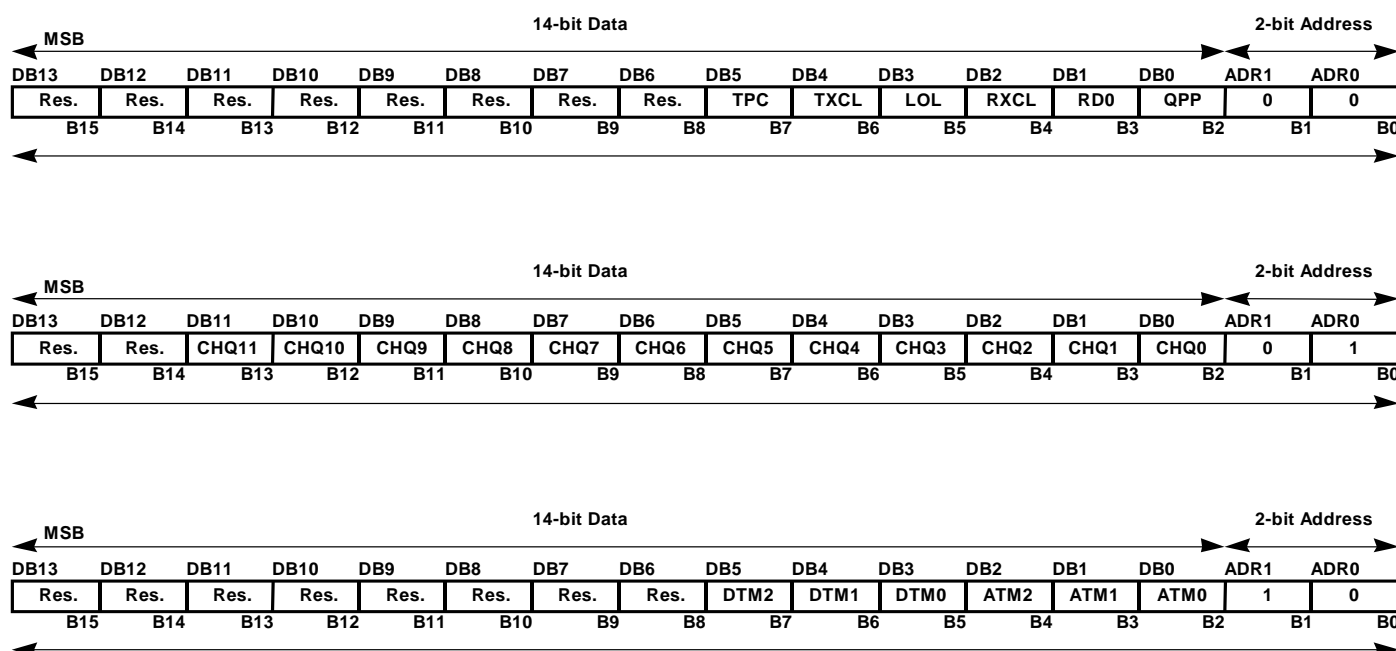

Figure 5. Register Organization
Figure 5 shows a register map. Table 4 through Table 6 provide detailed diagrams of the register organization: Table 4 and Table 5 outline the PLL configuration and channel frequency registers, and Table 6 displays the filter tuning and test mode register.
Each of the three registers are identically configured. Each is divided into a fourteen (14) bit data field and a two (2) bit address field. The 16 bits are input serially (see Figure 5) with the 14 data bits, most significant bit (DB13) first followed by the two address bits, most significant bit (ADR1) first. The last 16 bits clocked into the ML2722 will be loaded into the specified register. Loading less than 16 bits into any register will cause unpredictable device functionality.